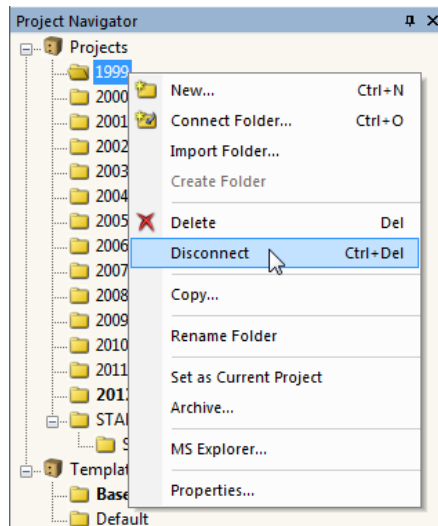

Figure 12.7: Context menu of a project
- use the **Copy** entry in the project's context menu in the navigator (see Figure 12.7).
- use the **Properties** entry in the project's context menu in the navigator (see Figure 12.7).
- use the context menu of the project (see Figure 12.7) or model (see Figure 12.12).